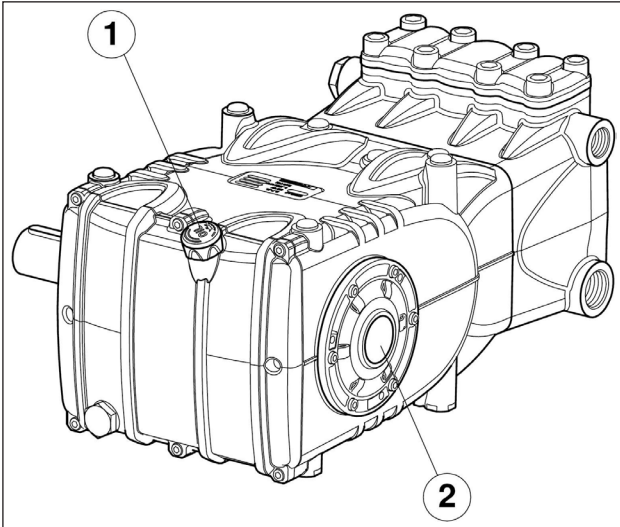

Fig. 14
- Oil in the pump casing is at level, verified with a dipstick (pos. ①, Fig. 14) and exceptionally with a level indicator (pos. ②, Fig. 14).